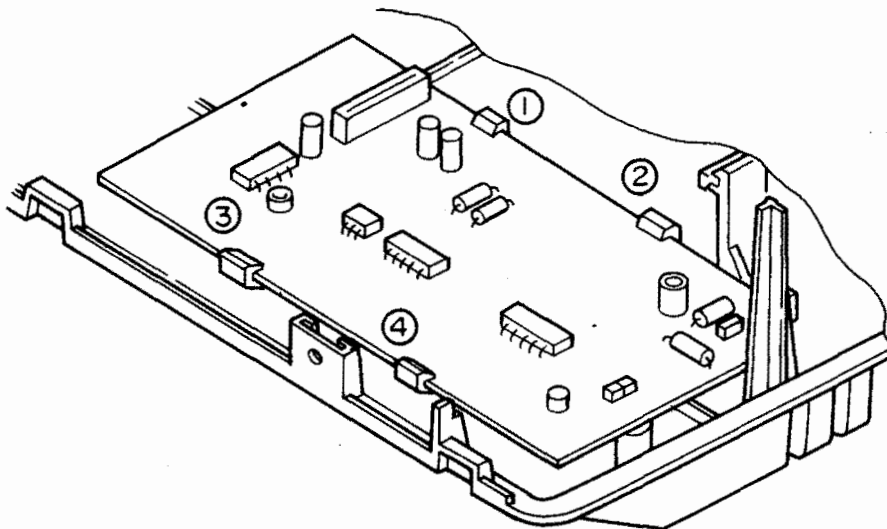

Figure 40.
3. The Modem Unit is held in place by catches ① ~ ④ located on the Base Cover as shown in Figure 40.